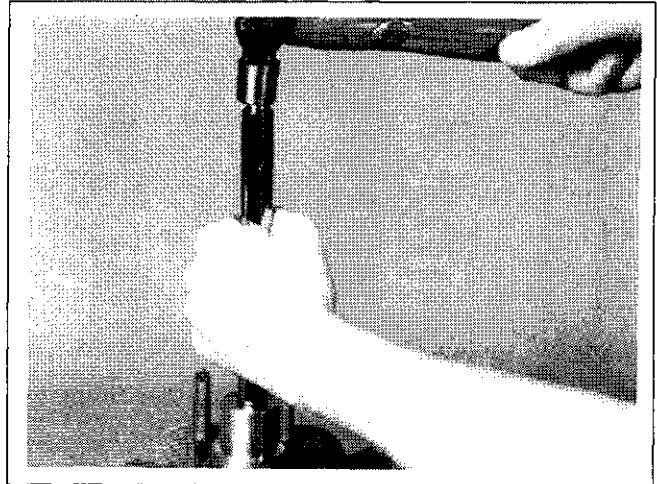

Figure 9-69. Removing Main Bearing.
2. Remove main bearing (if so equipped) from crankcase using a hammer and bearing remover. See Figure 9-69.